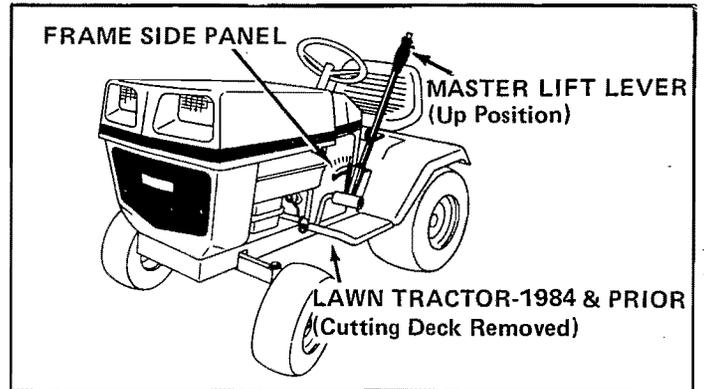
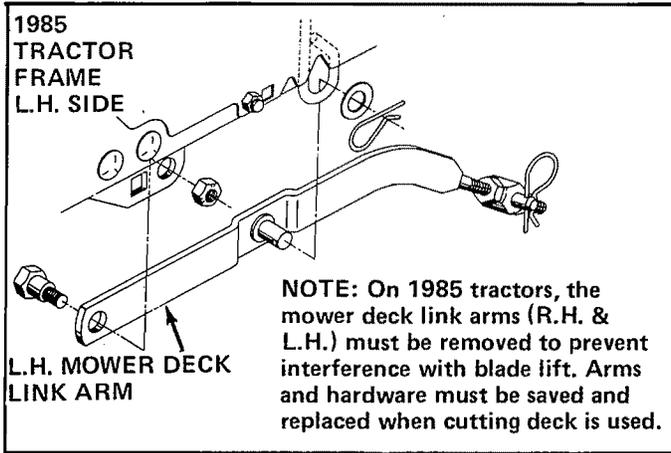
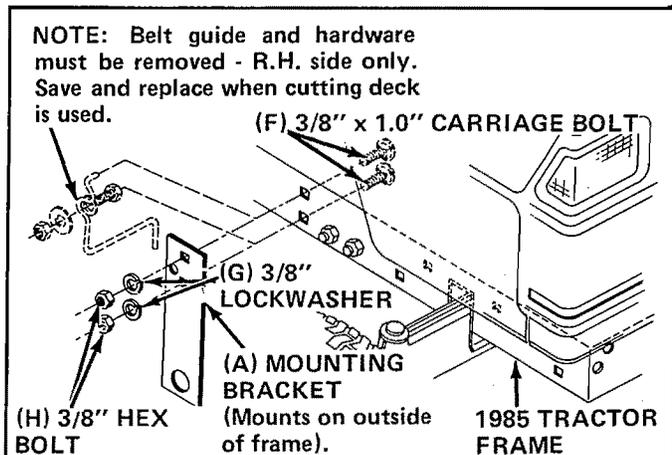

FIGURE 7A
FIGURE 7C
FIGURE 8B
**IMPORTANT:** Before proceeding to read Owner's Manual and attempting to assemble blade to Lawn Tractor, match you tractor with figure 7A or 7B.
2. Remove cutting deck and belt from lawn tractor. **1985 tractors require removal of mower deck link arms, R.H. & L.H. (See figure 7C) and belt guide (See figure 8B).** Mark all loose parts and save for re-assembly. Refer to Lawn Tractor Owners Manual for cutting deck removal. See figure 7A or B.
Remove master lift lever by loosening two set screws and then remove frame side panel. See figures 7A and 10A.
Re-assemble frame side panel and master lift lever removed in step 5 and return master lift lever to the up (back) position as shown in figure 7A.